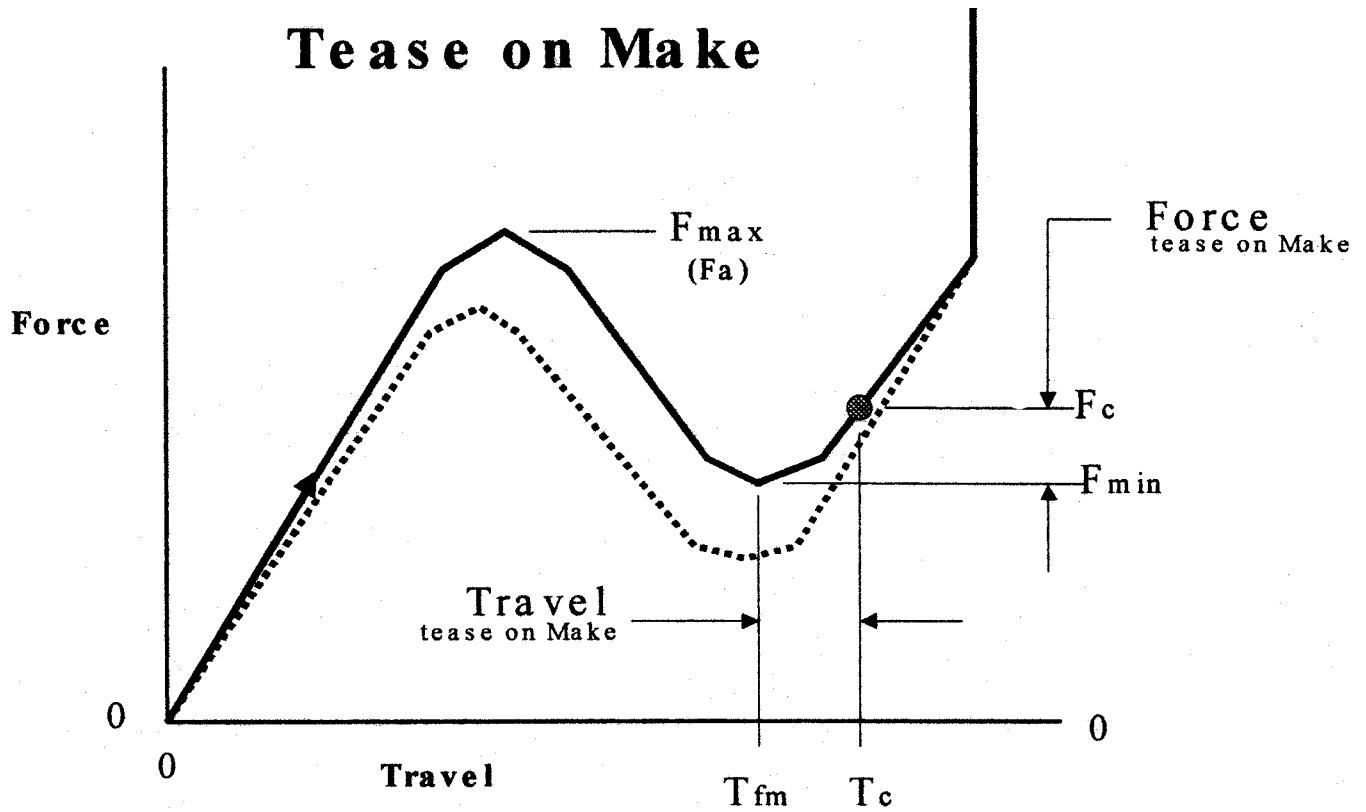

FIG. 1 Tease on Make
3.1 **Definitions:** Refer to Figs. 1 and 2 for the following terms.